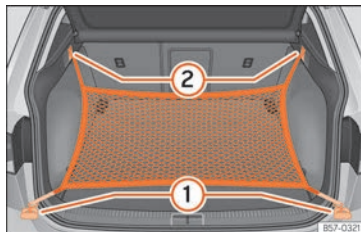

Fig. 123 In the luggage compartment: rings ① and hooks ② for attaching the net bag.
- Secure the short net hooks to the fastening rings »» Fig. 123 ① »» ⚠. The bag zip should be facing upwards.
- Secure the straps in the bag hooks ②.